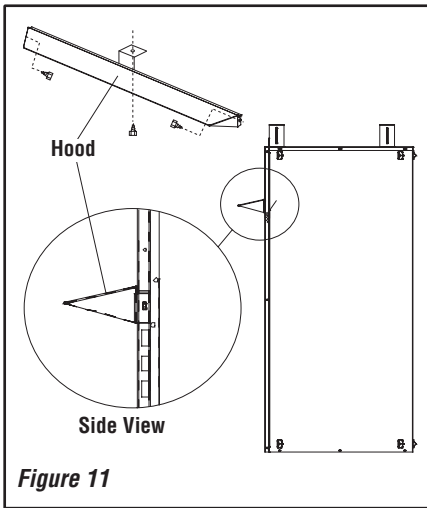

Figure 11
NOTE: A hood comes standard and is required. The factory-supplied hood must be installed on the firebox for safe operation in all installations. See Figure 11.
- Step 2.** Align the hood with the holes in the side frames as shown in Figure 11. Install three screws as shown in Figure 11. Make sure hood is level and secure.